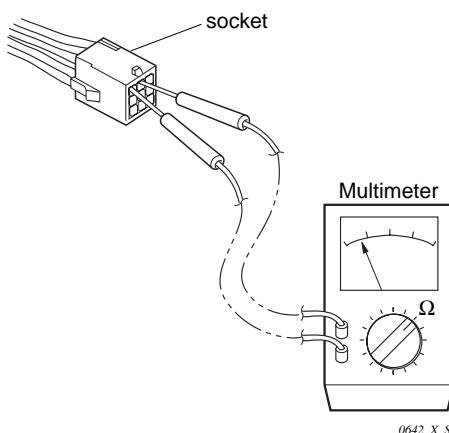

Fig. 29
(3) Checking the Protective Devices
- Then check continuity among plug's (and/or socket's) terminal as in **Fig. 29**.